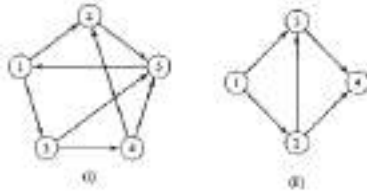

FIGURE 6.5
1. For each network in Figure 6.5 determine (a) a path, (b) a cycle, (c) a tree, and (d) a spanning tree.
2. Determine the sets N and A for the networks in Figure 6.5.